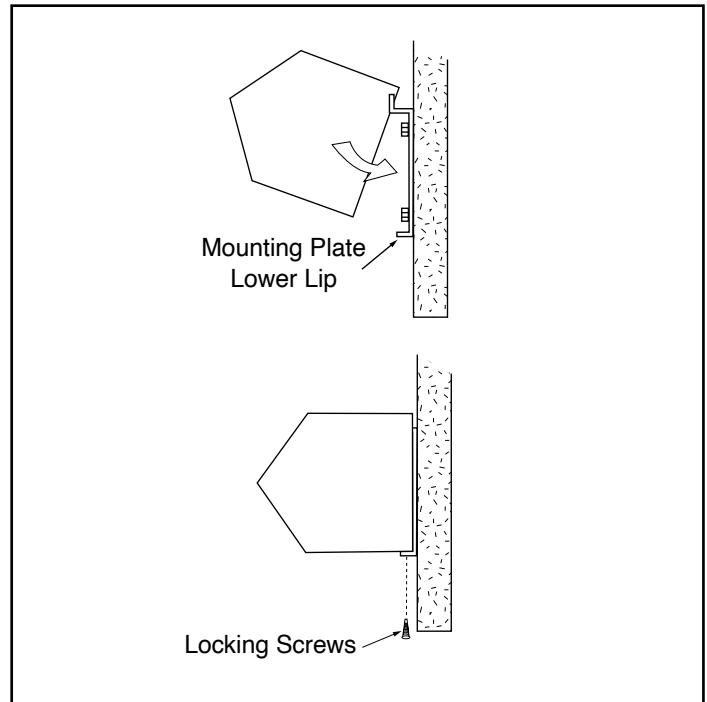

FIGURE 5 - Attaching Unit to Mounting Plate
- See FIGURE 5.**
- After the unit is securely seated to the mounting plate, install the locking screws along the bottom flange. **See FIGURE 5.**